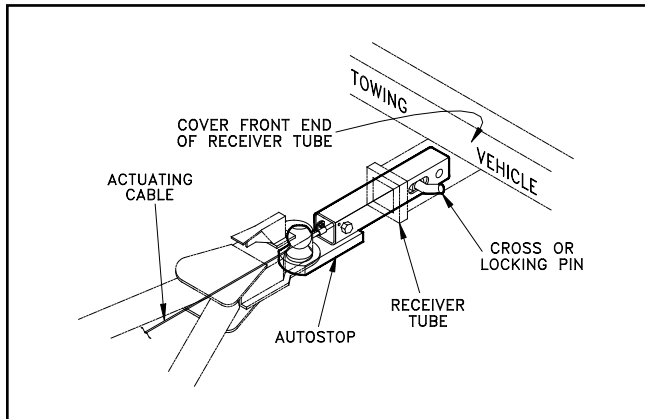

Figure 6
1. Insert the AutoStop into the receiver tube **with the actuating cable on the drivers side of the opening.** (Figure 6) Align the holes and insert the cross pin and safety clip (or locking pin). If the receiver tube is open at the front, it must be closed to keep road dust out of the mechanism. Clean the area and cover with tape.